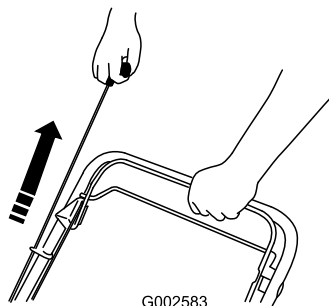

Figure 15
3. Start the engine using the recoil starter (Figure 15).